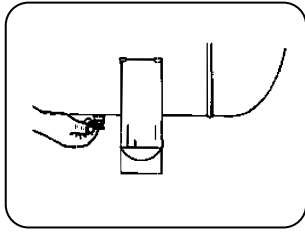

FIGURE 8.1
10. Check safety valve functioning (Figure 8.1) with the product turned off and with the tank without pressure, to avoid accidents.